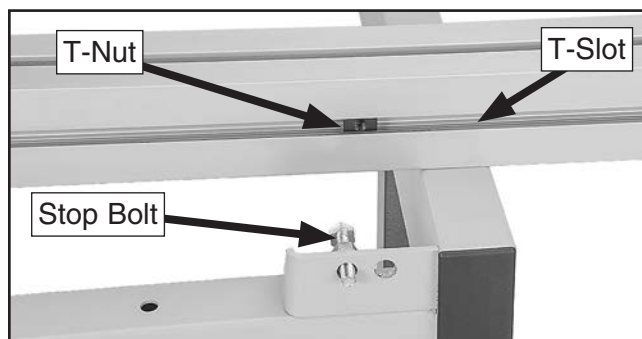

Figure 44. T-nut installed in bottom T-slot of crosscut fence for stop block.
39. Slide M8-1.25 T-nut into T-slot in bottom of crosscut fence (see **Figure 44**) and position in front of stop bolt.